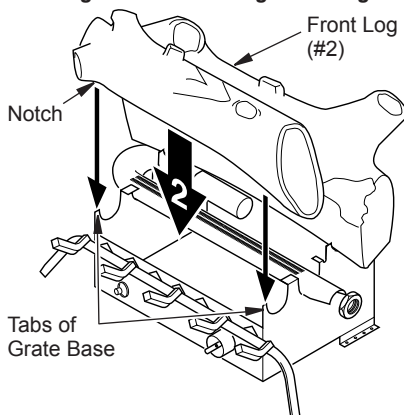

Figure 19 - Installing Front Log
2. Locate the notches on the back of the front log (#2). Slide these notches over the tabs of the grate base (see Figure 19).